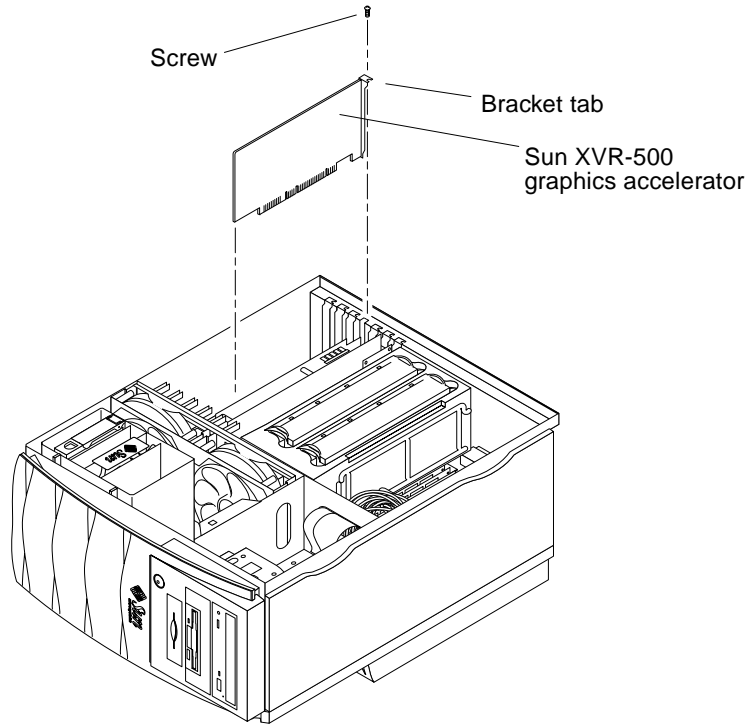

FIGURE 3-2 Installing Sun XVR-500 Graphics Accelerator in a Sun Blade 1000/2000 System
3. **Position the Sun XVR-500 graphics accelerator in the chassis (FIGURE 3-2).**